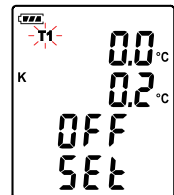

Fig.2
- (1) Plug the thermocouple into a desired input terminal (T1 ~ T4).
- (2) Turn off the unit.
- (3) Enter offset setting mode by pressing and holding  button and then press  power button to turn on the unit.(see Fig.2)